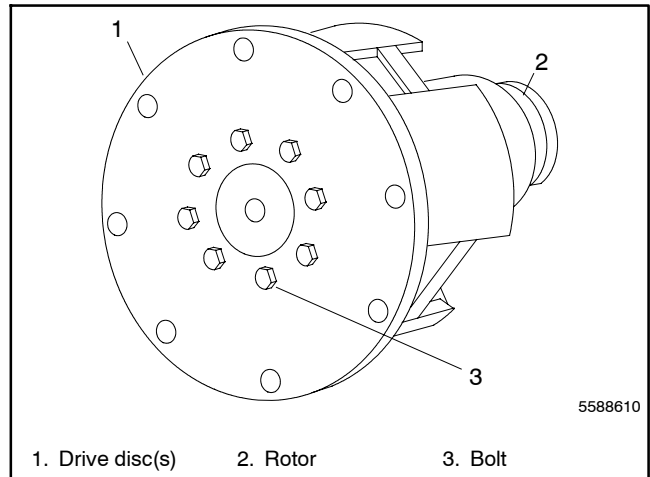

Figure 15-11 Drive Disc(s) Installation
2. Clamp the rotor in a soft-jaw vise. Apply thread sealant to the bolt threads. Install the drive disc(s) on the rotor and torque the eight bolts to specifications. See Figure 15-11.